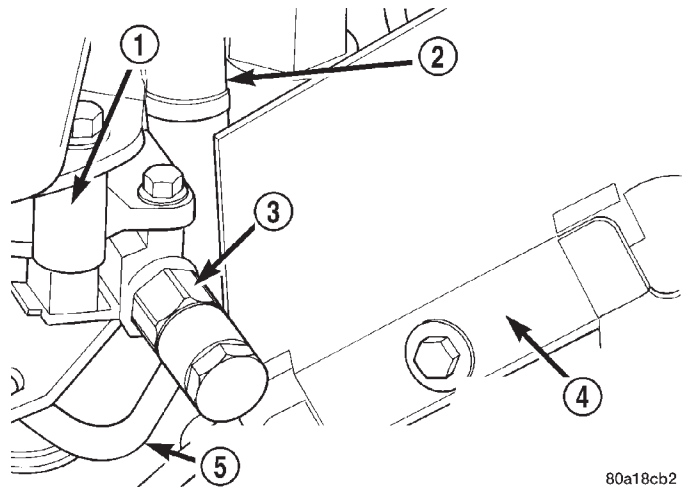

Fig. 5 Heat Shield
- (7) Remove the heat shield for the antilock brakes hydraulic control unit (Fig. 5).
(11) Position power steering pressure hose so hose is not contacting the power steering pump pulley or the drive belt. Tighten the banjo fitting flow bolt to a torque of 47 N·m (35 ft. lbs.).
(12) Install heat shield on hydraulic control unit (Fig. 5).